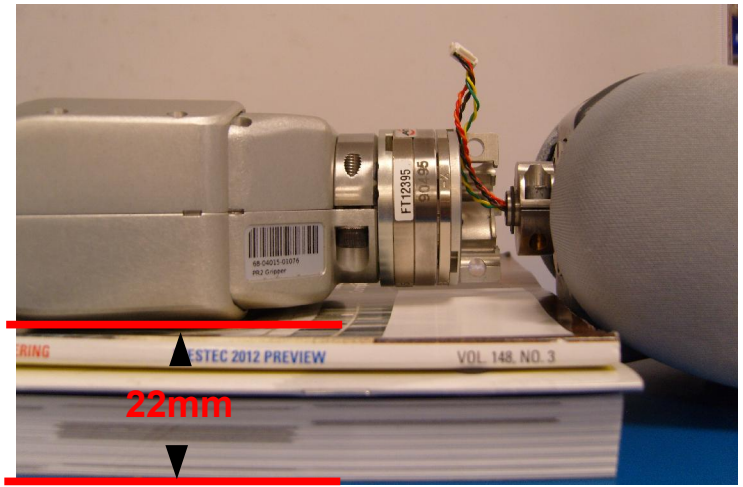

Fig. 3
4. Elevate the gripper on the table ~22mm. (Fig. 3)